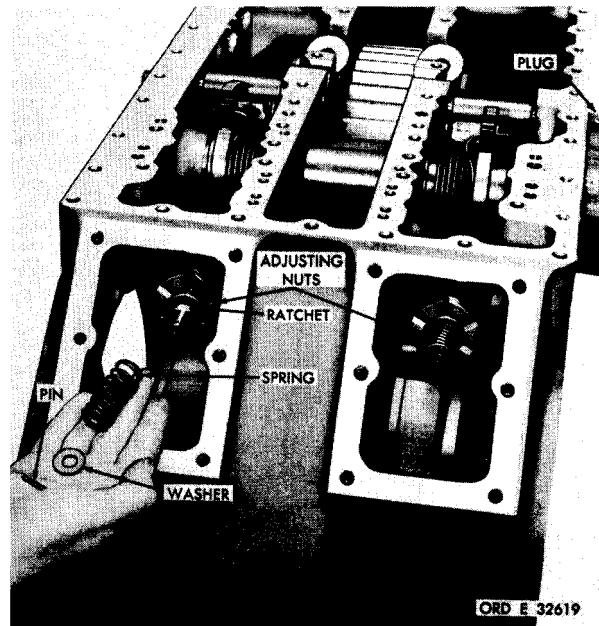

Figure 200. Right and left-brake adjusting nuts and component parts
*xc2* aj. Install the right-follower link shaft plug (fig. 200).
ak. Tighten brake adjusting nuts until they are finger tight (fig. 200). Do not tighten the nuts enough to move the rotating cam rings.
al. Install ratchets onto brake links (fig. 200).
a.m. Install springs and washers and secure with pins (fig. 200). Bend the ends of the pins to retain them.